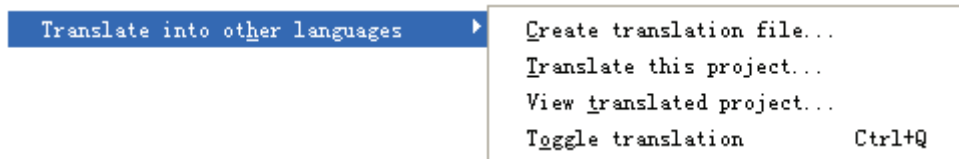

Figure 2-3-7 Language Dialog
- Project [P]/Translate into other languages [H]: Translate the current project file into another language, shown in figure 2-3-7.